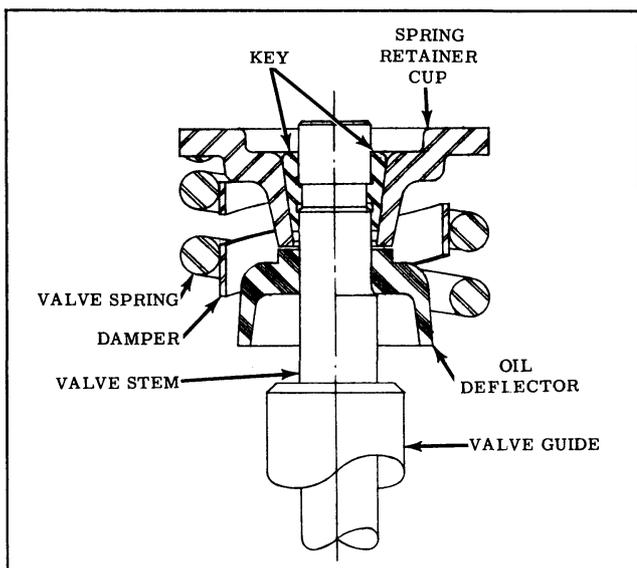

Fig. 8-7 Valve Assembly
3. Using Tool J-5137-1, compress the valve spring until valve keys are accessible, then remove keys, spring retainer cup, and spring and damper assembly. (See Fig. 8-7)